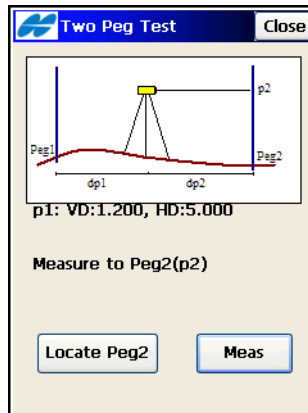

Figure 8-75. Take Peg 2 Reading
2. Then move the instrument to one of the pegs and take the shots again to Pegs 1 and 2 (Figure 8-75).
- Tap the **Meas** button to take measurements for the displayed prompted Peg (Figure 8-75 on page 8-63). The **Two Peg Test Results** screen displays.